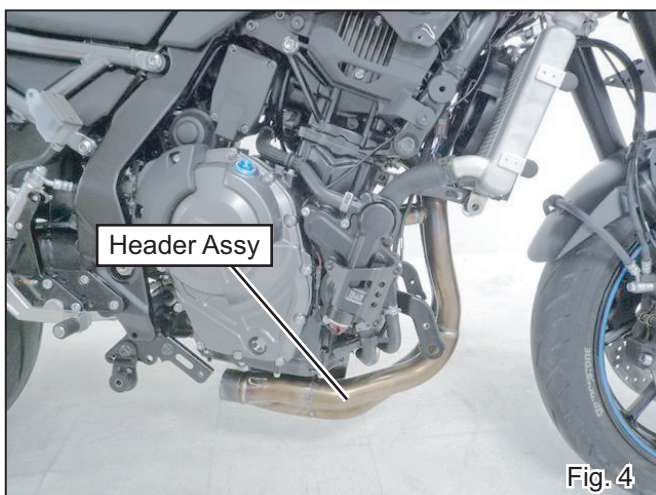

Fig. 4
- 6) Change the exhaust gasket on exhaust ports with new gasket. Then, install Header Assy into exhaust port of engine with Conical Washer M8 and stock bolts (See Fig. 4 & 5). Tighten bolt only by hand at this stage.